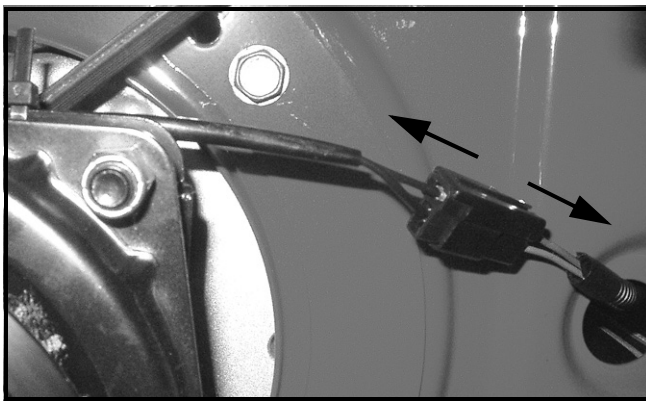

FIGURE 3
14. From the underside of the deck, disconnect the electric clutch wire harness connector from the rider's main harness. See Figure 3.